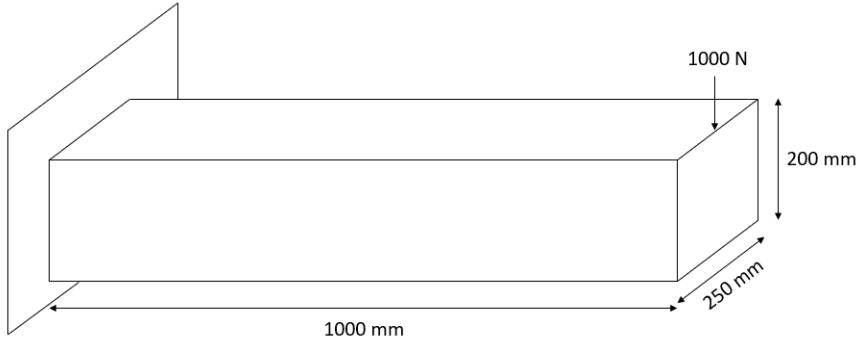

Figure 2
5. Find out the stress distribution of the cantilever beam of 1000 mm in length and has a 250mm x 200mm rectangular cross-section under the point load of 1000 N at the free end as shown in Figure 2. The section is made up of a concrete having a value of 25000 N/mm^2 for Young's modulus and a value of 0.2 for Poisson's ratio in the respective fields.